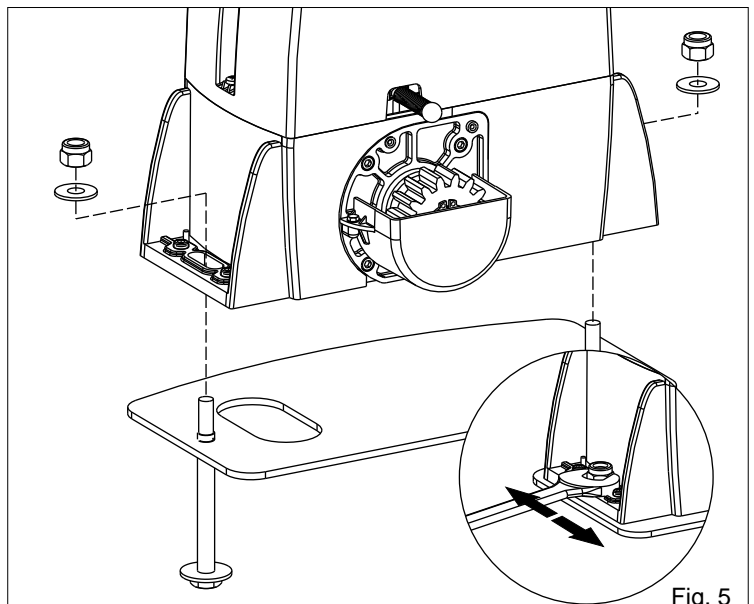

Fig. 5
**4.2.** Fix the motor reducer to the foundation plate with the 2 included nuts, adjusting the side position (Fig. 5) so to respect the shown quota in (Fig. 2).